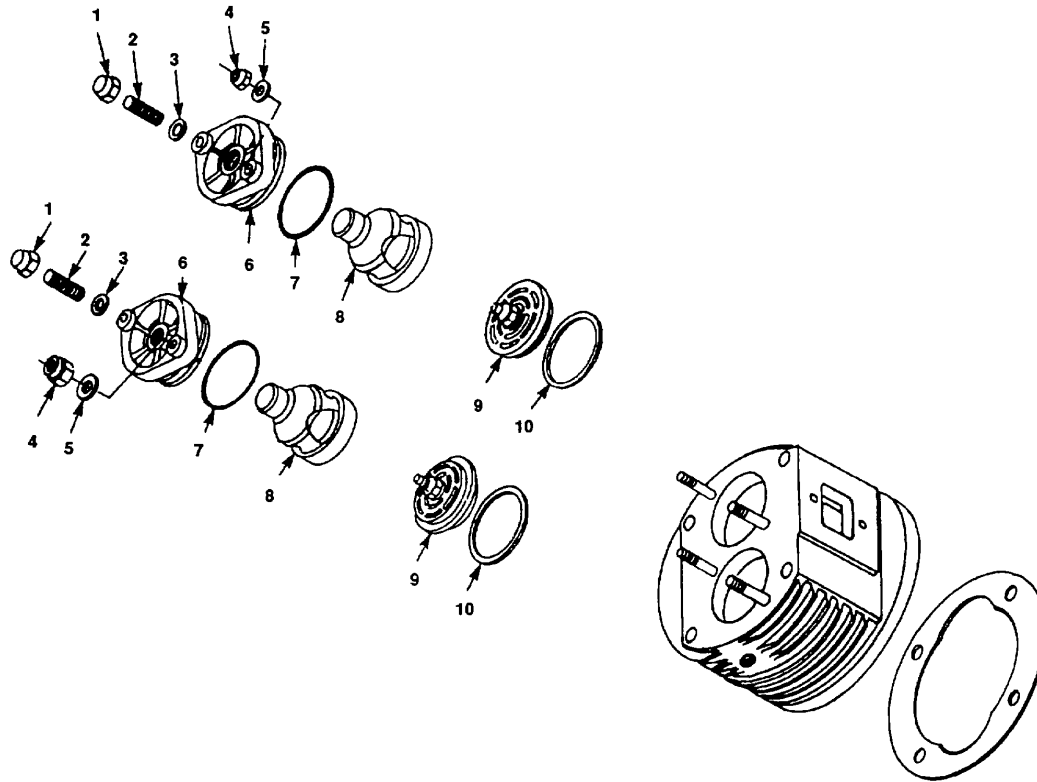

Figure 4-4. Valve Head, 1st Stage
- a. Changing valves of the 1st stage. Refer to figure 4-4.
1. Remove acorn nut (1).
2. Screw out stud (2) a number of turns (until loose).
3. Remove and discard gasket (3) if necessary.
4. Remove valve cover nuts (4), washers (5), and valve cover (6).
5. Remove and discard O-ring (7).
6. Take off valve cap (8) and extract the valve (9).